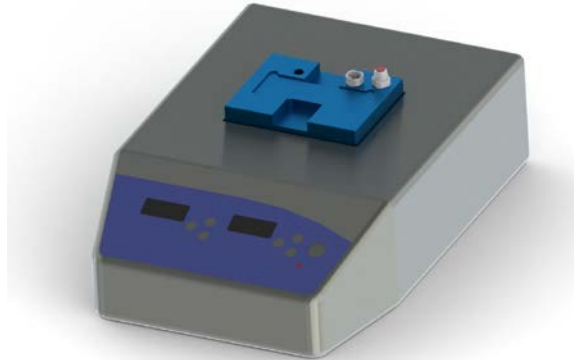

Figure 1 - FFPE sectionWARMER placed in heater
1. Place FFPE sectionWARMER in heater as shown in figure 1